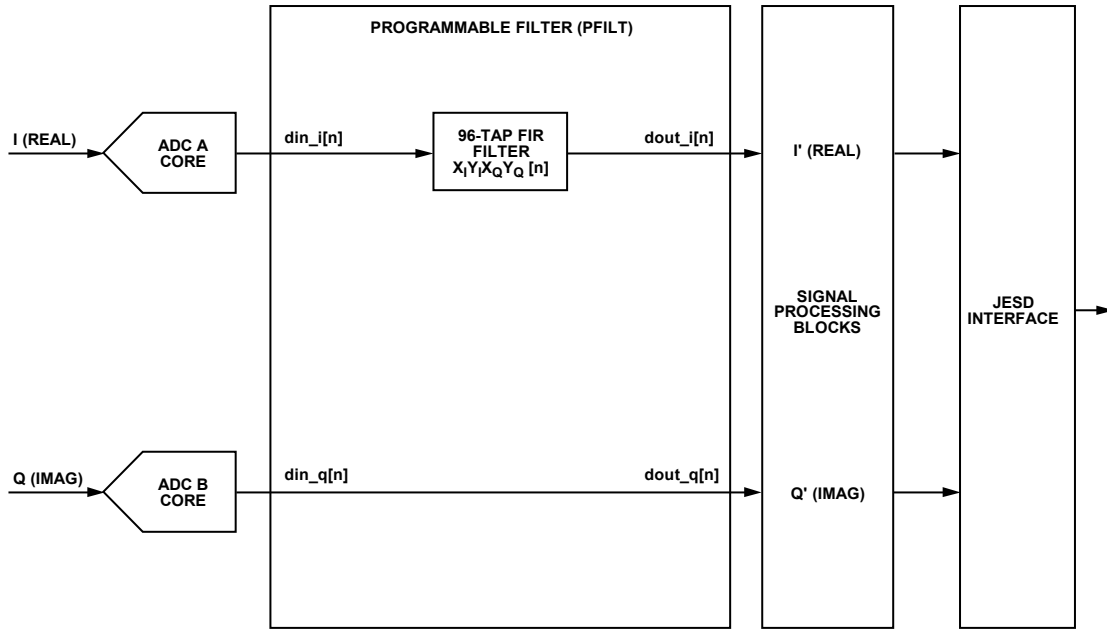

Figure 67. Real 96-Tap Filter Configuration
- Real 96-tap filter for on either I or Q channel (see Figure 67)